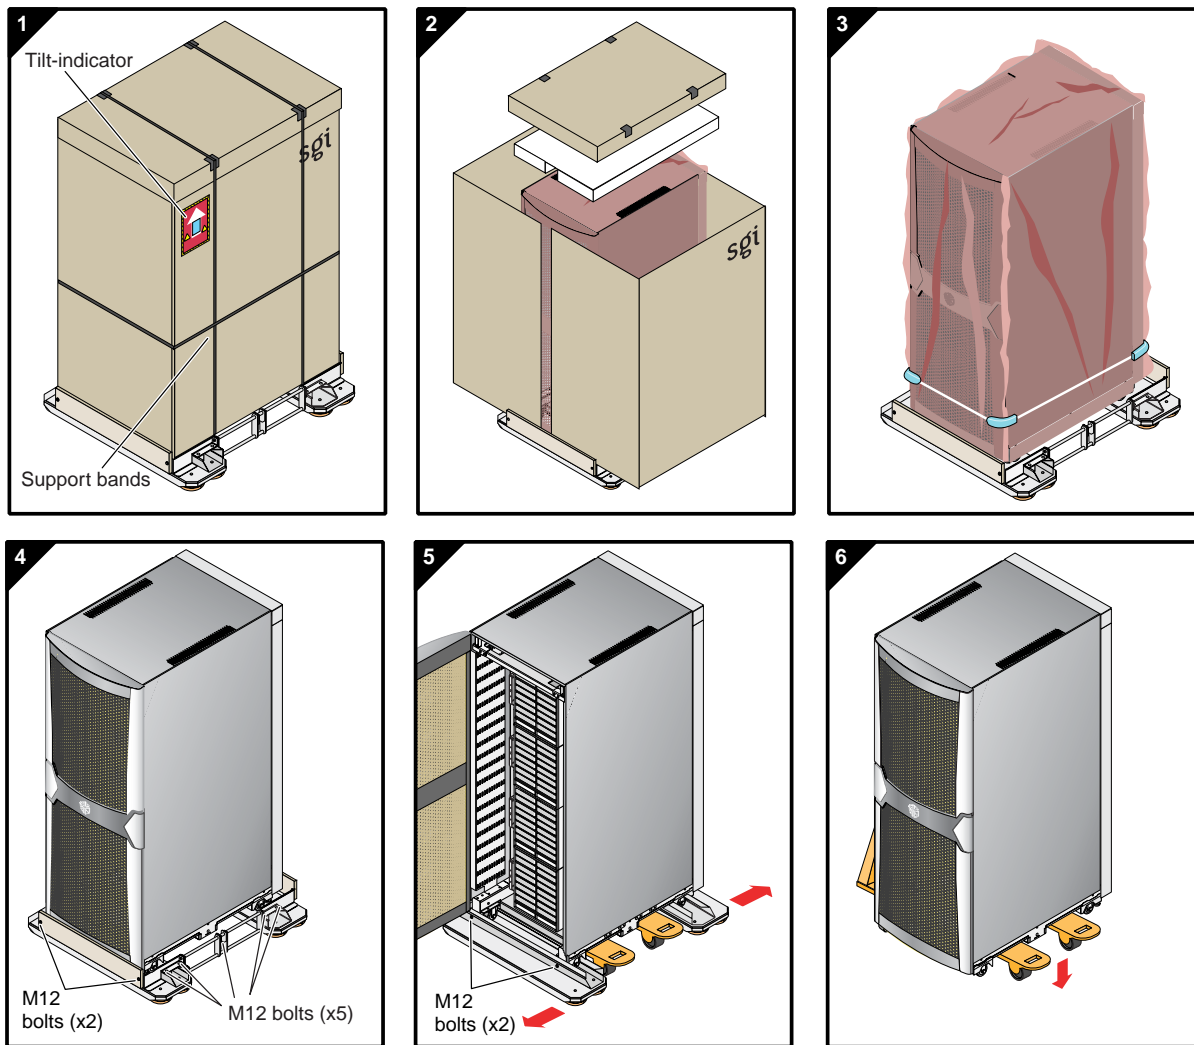

Figure 1-1 Unpacking the Rack
2. Carefully cut the three support bands, refer to Figure 1-1 (1).
3. Remove top corrugated cap, two corrugated sleeve panels and cushioned top pad surrounding the machine (2).
4. Remove the cover bag and bungee cushion from the rack (3).
5. Remove two M12 bolts (3/4in socket) holding base boards at both ends of machine (4).
7. Remove five M12 bolts (3/4-in socket) securing side stabilizer assembly on both sides of machine (4).
10. Carefully remove two M12 bolts (3/4-in socket) securing both end stabilizer assemblies to the machine (5).